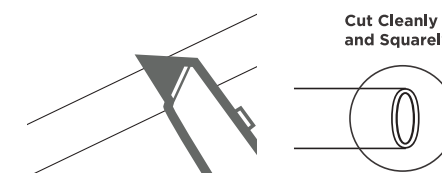

Figure 2
3. If the tubing is too long, cut it to a suitable length using a sharp utility knife or pair of scissors. Cut the tubing squarely and cleanly (Fig.2). Make sure the tubing is fully inserted.